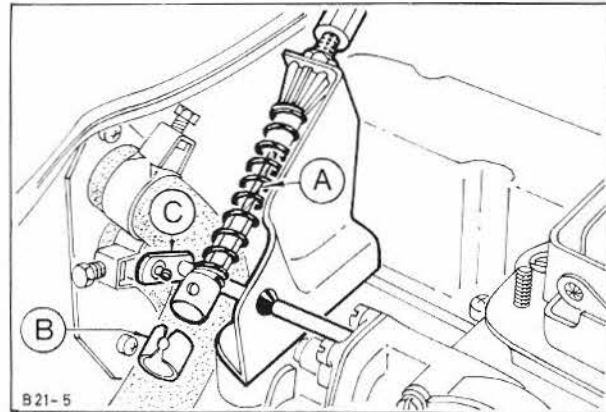

Fig. 10. Disconnect throttle cable at throttle linkage.
5. Disconnect throttle cable at throttle linkage, Fig. 10, and remove from bracket. Remove choke cable, where fitted, from carburettor.